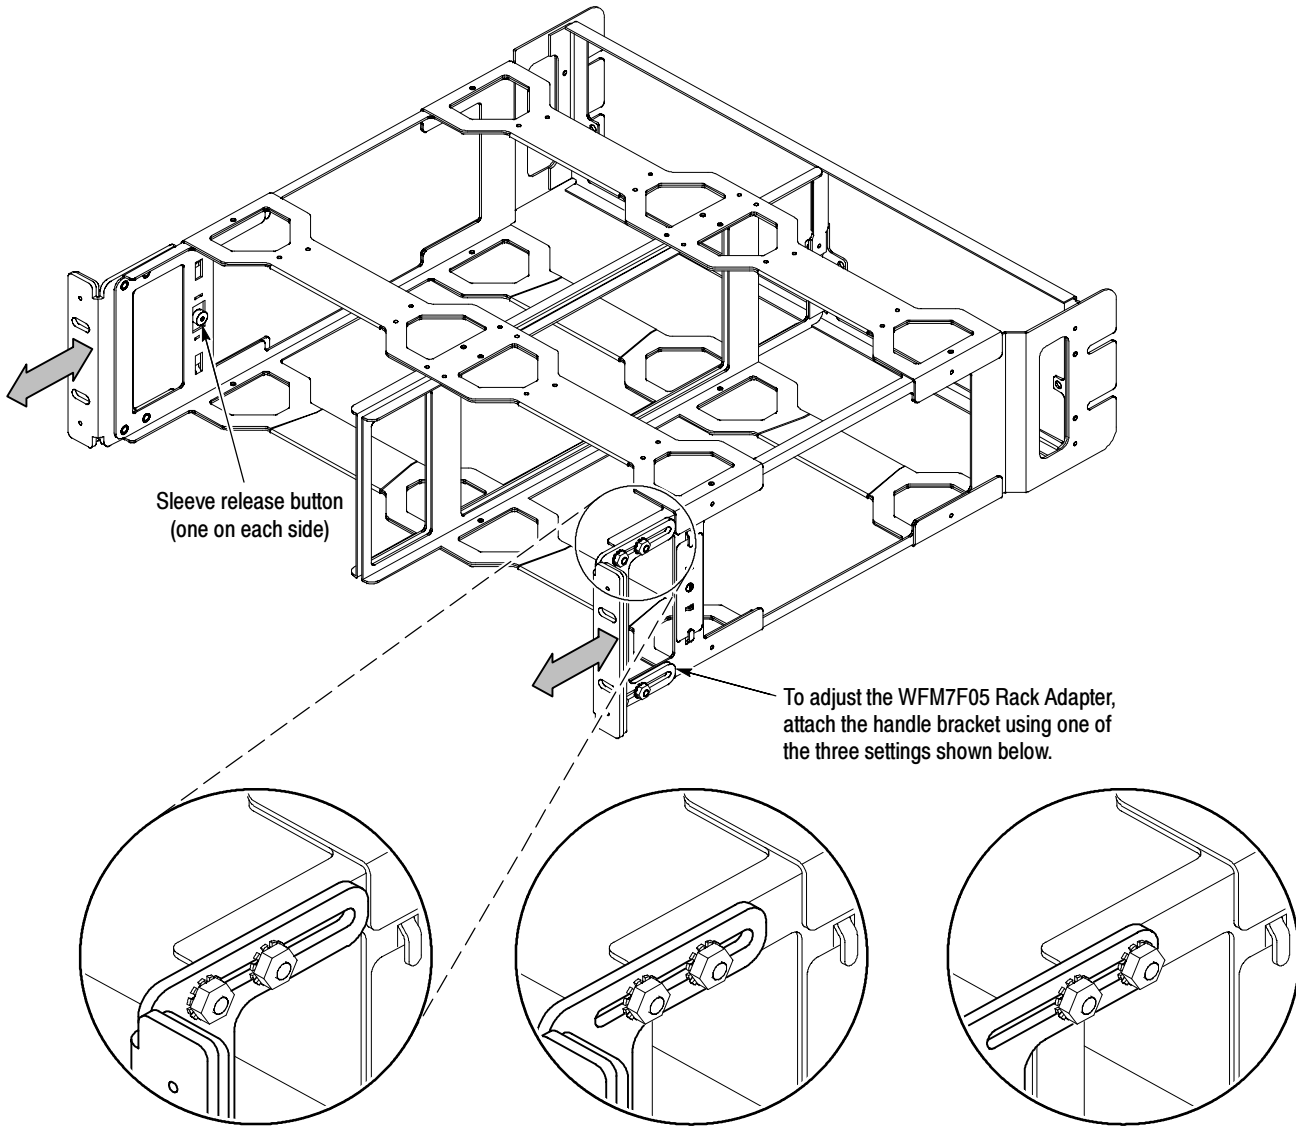

Figure 5: Adjusting the position of the handles
1. If the two sleeves (Tektronix part numbers 390-1210-00 and 390-1211-00) are installed in the rack adapter, remove them as follows: locate the button on the inside front of the rack adapter (see Figure 5) and hold it in while pulling the sleeve forward and out of the adapter.
2. If desired, you can adjust the position of the handle brackets to mount the adapter flush with other equipment in the rack (see Figure 5). To do this, loosen the nuts that attach the handle brackets to the rack adapter, adjust the position of the handle brackets as desired, and then tighten the nuts securely.